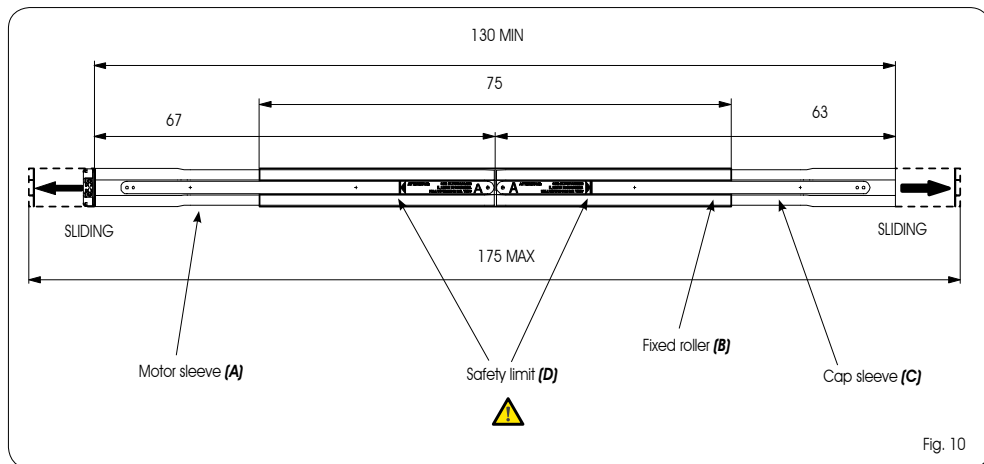

Fig. 10
To obtain the minimum value, fully insert the 2 sleeves (Fig.10 ref. A-C) inside the fixed roller (fig.10 ref.B). (Roller length 130cm)
To obtain the maximum value, withdraw the 2 sleeves (Fig.10 ref. A-C) from the roller, up to the safety limit marked on the plate (Fig.10 ref.D). (Roller length 175cm)
**⚠ WHEN YOU SLIDE THE SLEEVES TOWARD THE OUTER ENDS OF THE FIXED ROLLER, NEVER GO BEYOND THE SAFETY LIMITS (Fig.10 ref.D)**
**4.2 ASSEMBLIES DESCRIBED IN CHAPTERS 3.3 (Fig. 10)**